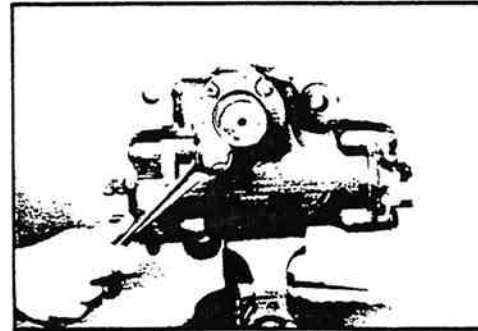

Figure 11-8. Bolt Removal.
7. Remove the four bolts (32) from the trunnion cover with a 1/2 inch socket (figure 11-8).